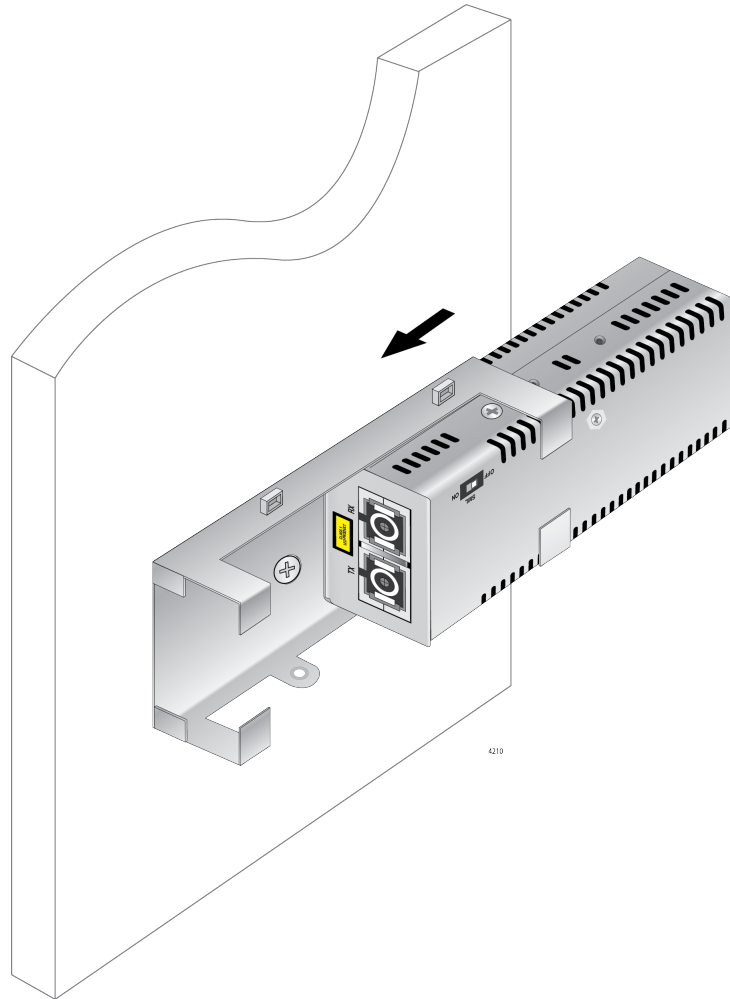

Figure 31. Attaching the Media Converter to the Mounting Bracket
8. Slide the media converter through the mounting bracket with the DIP switch facing outward, as shown in Figure 31 on page 46.
9. Slide the media converter through the mounting bracket with the DIP switch facing outward, as shown in Figure 31 on page 46.